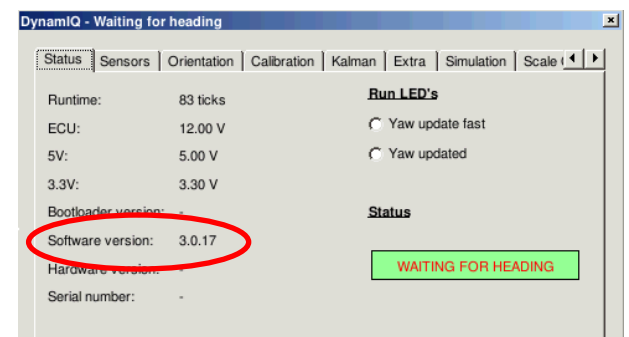

Figure 17 DynamIQ ISO diagnostics.
27. Check software version (Figure 17).